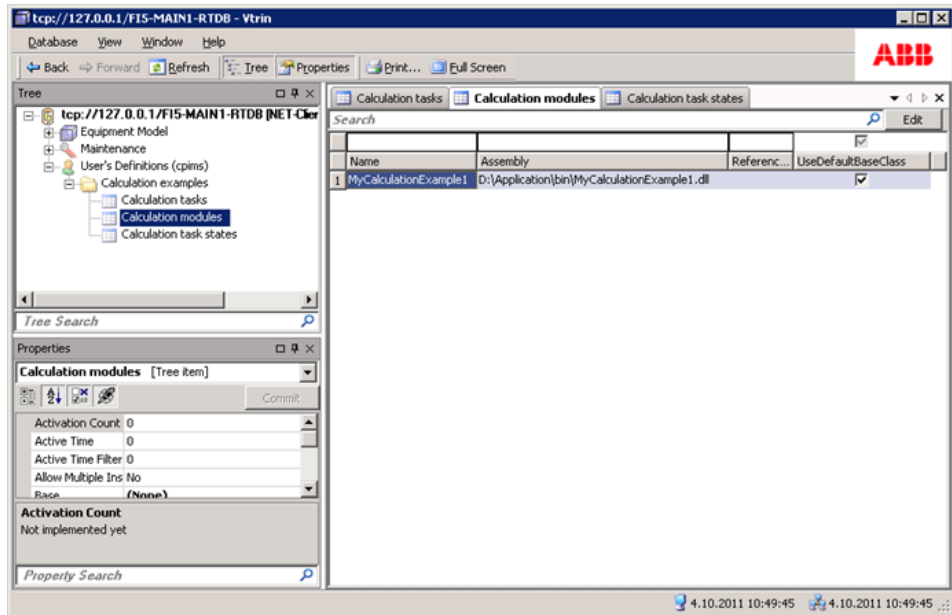

Figure 83. Calculation module configuration created
2. Specify the name and assembly path. Calculation Modules appears as shown in Figure 83.